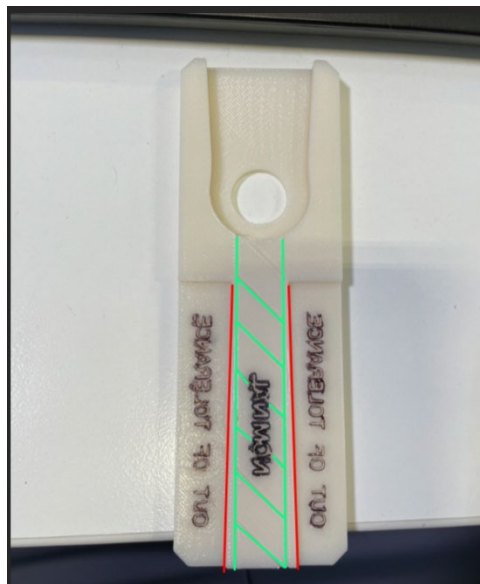

Figure 2. ITL001714 Rigging Interpretation
- If the drag link fits within the hashed region of the tool (between the green lines in **Figure 2**), this is equivalent to a .1875” rig pin fitting.
- If the drag link fits within the raised region (between the red lines in **Figure 2**), this is equivalent to a .1625” rig pin fitting.